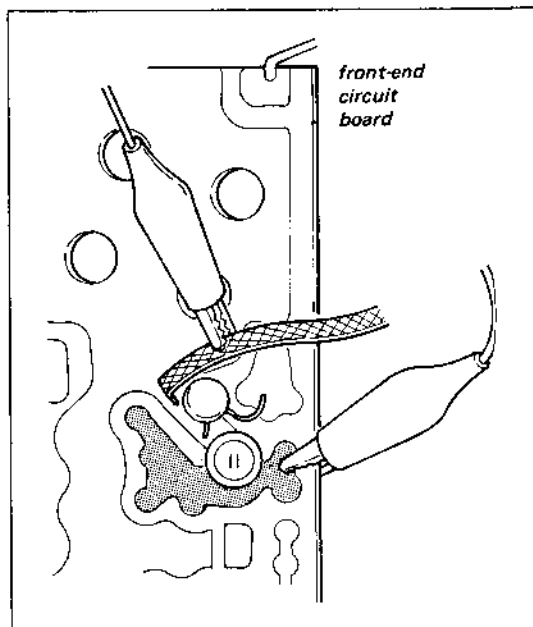

Fig. 3-3 Sweep generator connection
3. Connect the output cable of the sweep generator across L3 on the front-end circuit board with alligator clips, as shown in Fig. 3-3.
4. Connect the output cable of the sweep generator across L3 on the front-end circuit board with alligator clips, as shown in Fig. 3-3 on page 12.
- Connect the output cable of the sweep generator across L3 on the front-end circuit board with alligator clips, as shown in Fig. 3-3 on page 12.